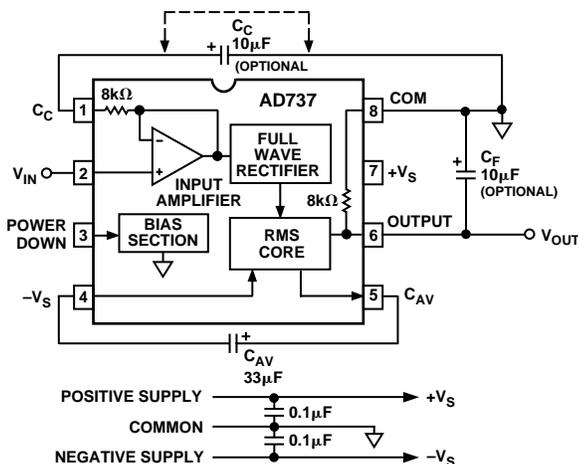

Figure 16. AD737 True RMS Circuit
- ¹Accuracy is specified with the AD737 connected as shown in Figure 16 with capacitor C_C.
As shown by Figure 16, the AD737 has four functional subsections: input amplifier, full-wave rectifier, rms core and bias sections. The FET input amplifier allows both a high impedance, buffered input (Pin 2) or a low impedance, wide-dynamic-range